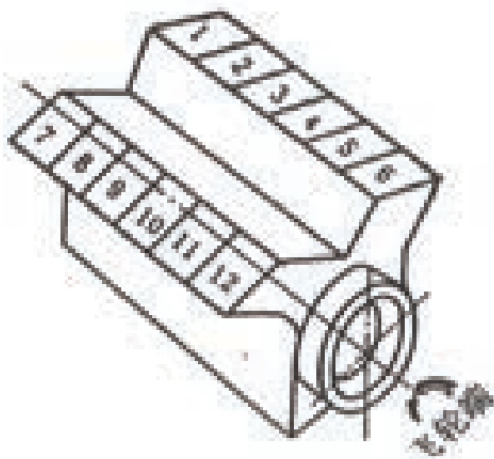

Figure 2-4 Cylinder sequence number of
2) The cylinder sequence of the inline diesel engine is calculated from the front end (free end) of the diesel engine. The cylinder sequence of the 12-cylinder V-type diesel engine is shown in Figure 2-4. The ignition sequence of the diesel engine is as follows:
Note: Except for the 12-cylinder V-type right-turn diesel engine used as the main engine of the ship, all the diesel engines are left-turn engines, and their steering is shown in Figure 2-4, that is, the reverse direction is considered from the flywheel end, and the steering of the right-turn engine is opposite to it, and the ignition sequence is also different.